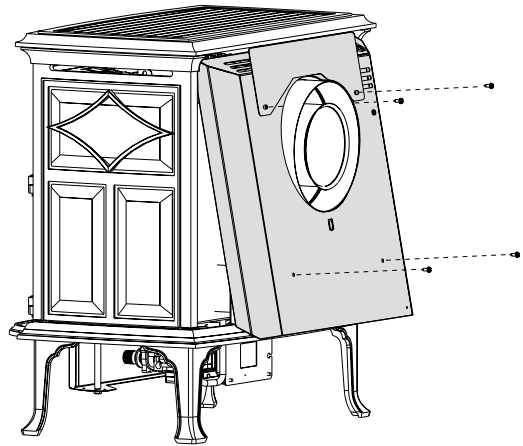

Figure 13. Remove rear shroud to access the Adaptor Collar.
- Vertically terminated vent runs require 4/6 vent pipe. Use Vertical Vent Adaptor Kit 157674. See figs. 13 and 14.